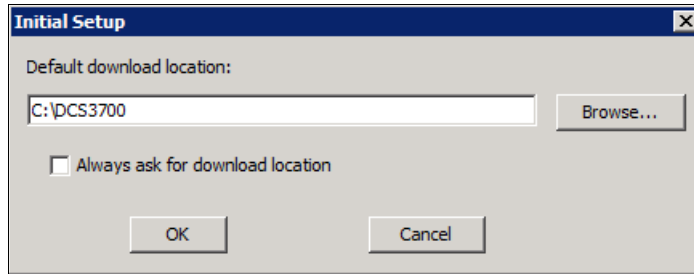

Figure A-14 Download Director - Initial Setup
- b. You are prompted to specify a default location for all downloads, as shown in Figure A-14. Click **Browse** to change the folder location. Click **OK** when you choose the download location.